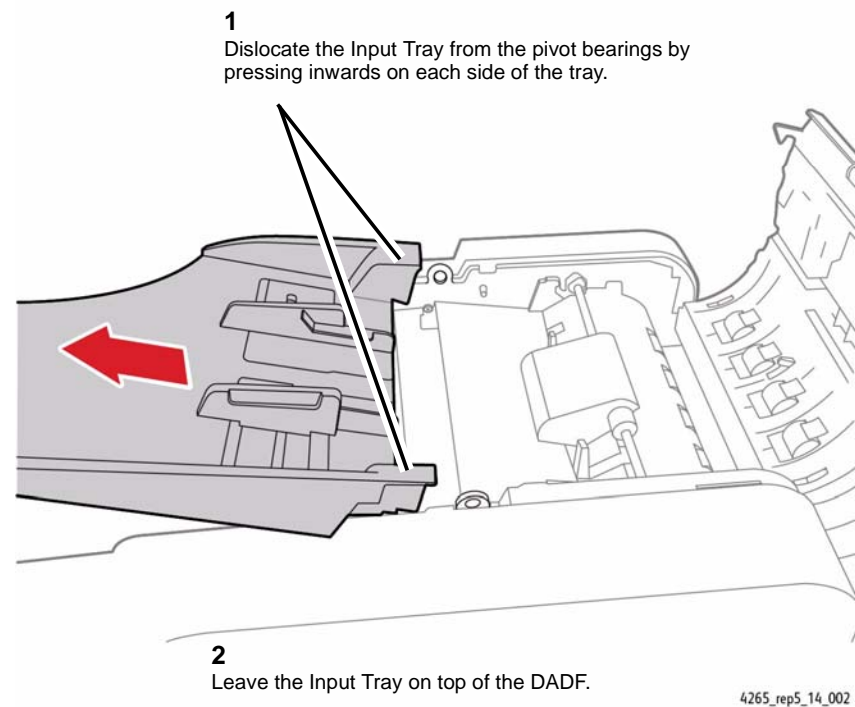

Figure 2 Dislocating the Input Tray from the DADF
4. Dislocate the Input Tray from the DADF (Figure 2).